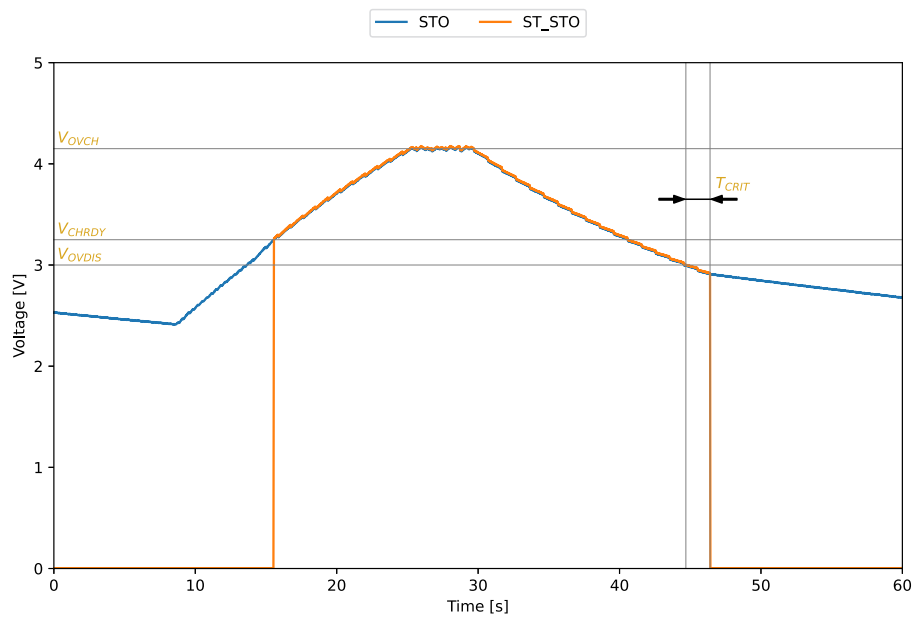

Figure 6: AEM11900 storage element protection thresholds behavior
- Disconnect the power supply from **SRC** (done at about 30 s on Figure 6).